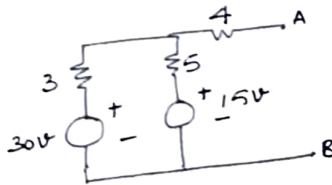

Fig. 1
b) Obtain Thevenin and Norton equivalent circuits for the circuit as shown in Fig.1.